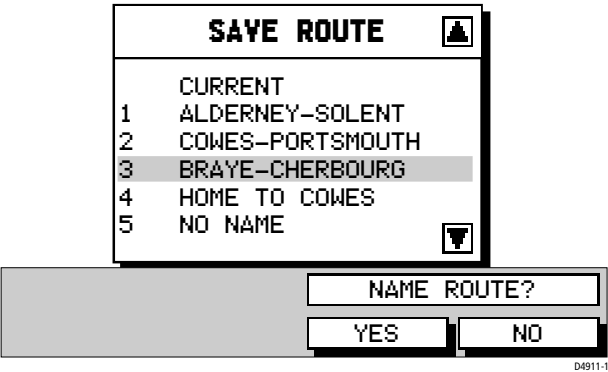

Figure 3-35: Save Route Soft Keys
2. Press the SAVE ROUTE soft key. The Save Route List and the NAME ROUTE soft keys are displayed as shown in *Figure 3-35* with the next available entry on the Route List highlighted.